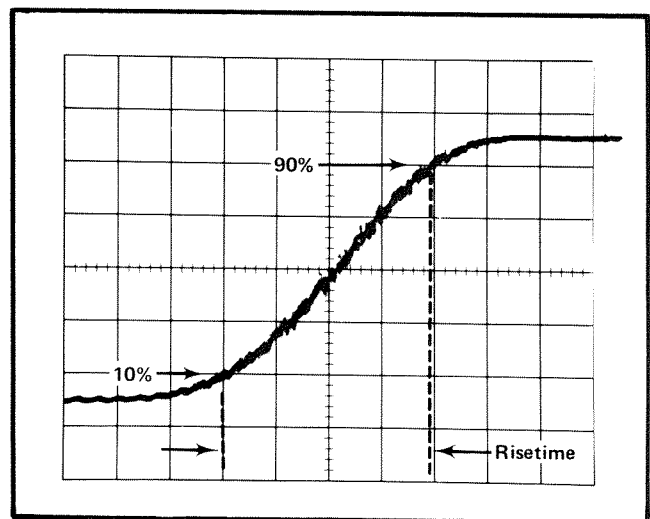

Fig. 5-11. Typical risetime waveform.
(1) Connect a 42 inch coaxial cable from the Type 106 Trigger Output to the 3T2 1 M Ω Trigger Input Connector.
(2) Connect the + Output connector of the Type 106 Square Wave Generator to the Channel A Input connector of the 3S1, using a 2 ns cable (item 17).
(3) Set the Type 106 Square Wave Generator frequency to 250 kHz and adjust the + Transition Amplitude to obtain a 5 division display on the Sampling System CRT.
(4) Measure and record the display risetime as measured between the 10 and 90% amplitude points. See Fig. 5-11.
(5) Adjust the Channel A and Channel B Position controls equally to set the top of the display to graticule center. Then switch the Channel A and Channel B mVolts/Div to 5 mV.